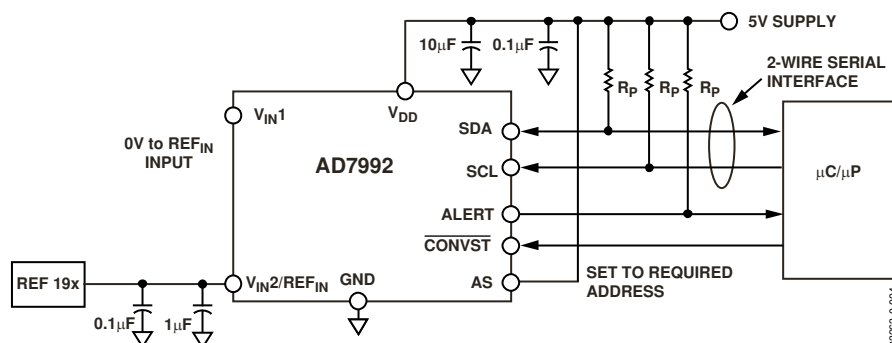

Figure 21. AD7992 Typical Connection Diagram, Single-Channel Mode, Mode 1
Figure 21 shows the typical connection diagram for the AD7992. In Figure 21, the address select pin (AS) is tied to V_{DD} ; however AS can also be tied to AGND or left floating, allowing the user to select up to five AD7992 devices on the same serial bus. An external reference must be applied to the AD7992. This reference can be in the range of 1.2 V to V_{DD} . A precision reference like the REF 19x family, ADR03, or ADR381 can be used to supply the reference voltage to the ADC. The AD7992 can be configured to be a single-channel device with the reference voltage applied to the V_{IN2}/REF_{IN} pin. The AD7992 can also be configured as a dual-channel device where the reference voltage is taken from the supply voltage V_{DD} , and the V_{IN2}/REF_{IN} takes on its analog input function, V_{IN2} .